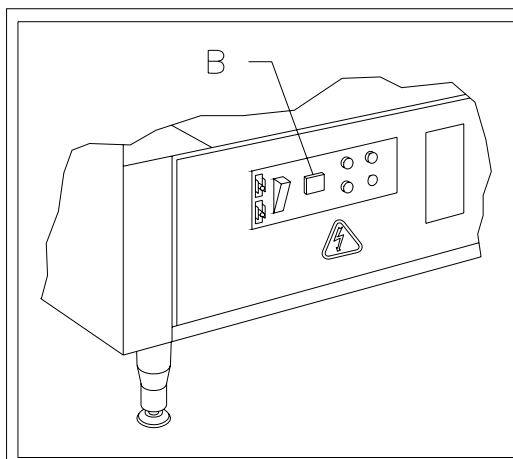

FIG. 6
- b) Turn the column to the required position by operating the re-loading pushbutton mounted on the electrical panel (Ref. B Fig.6).